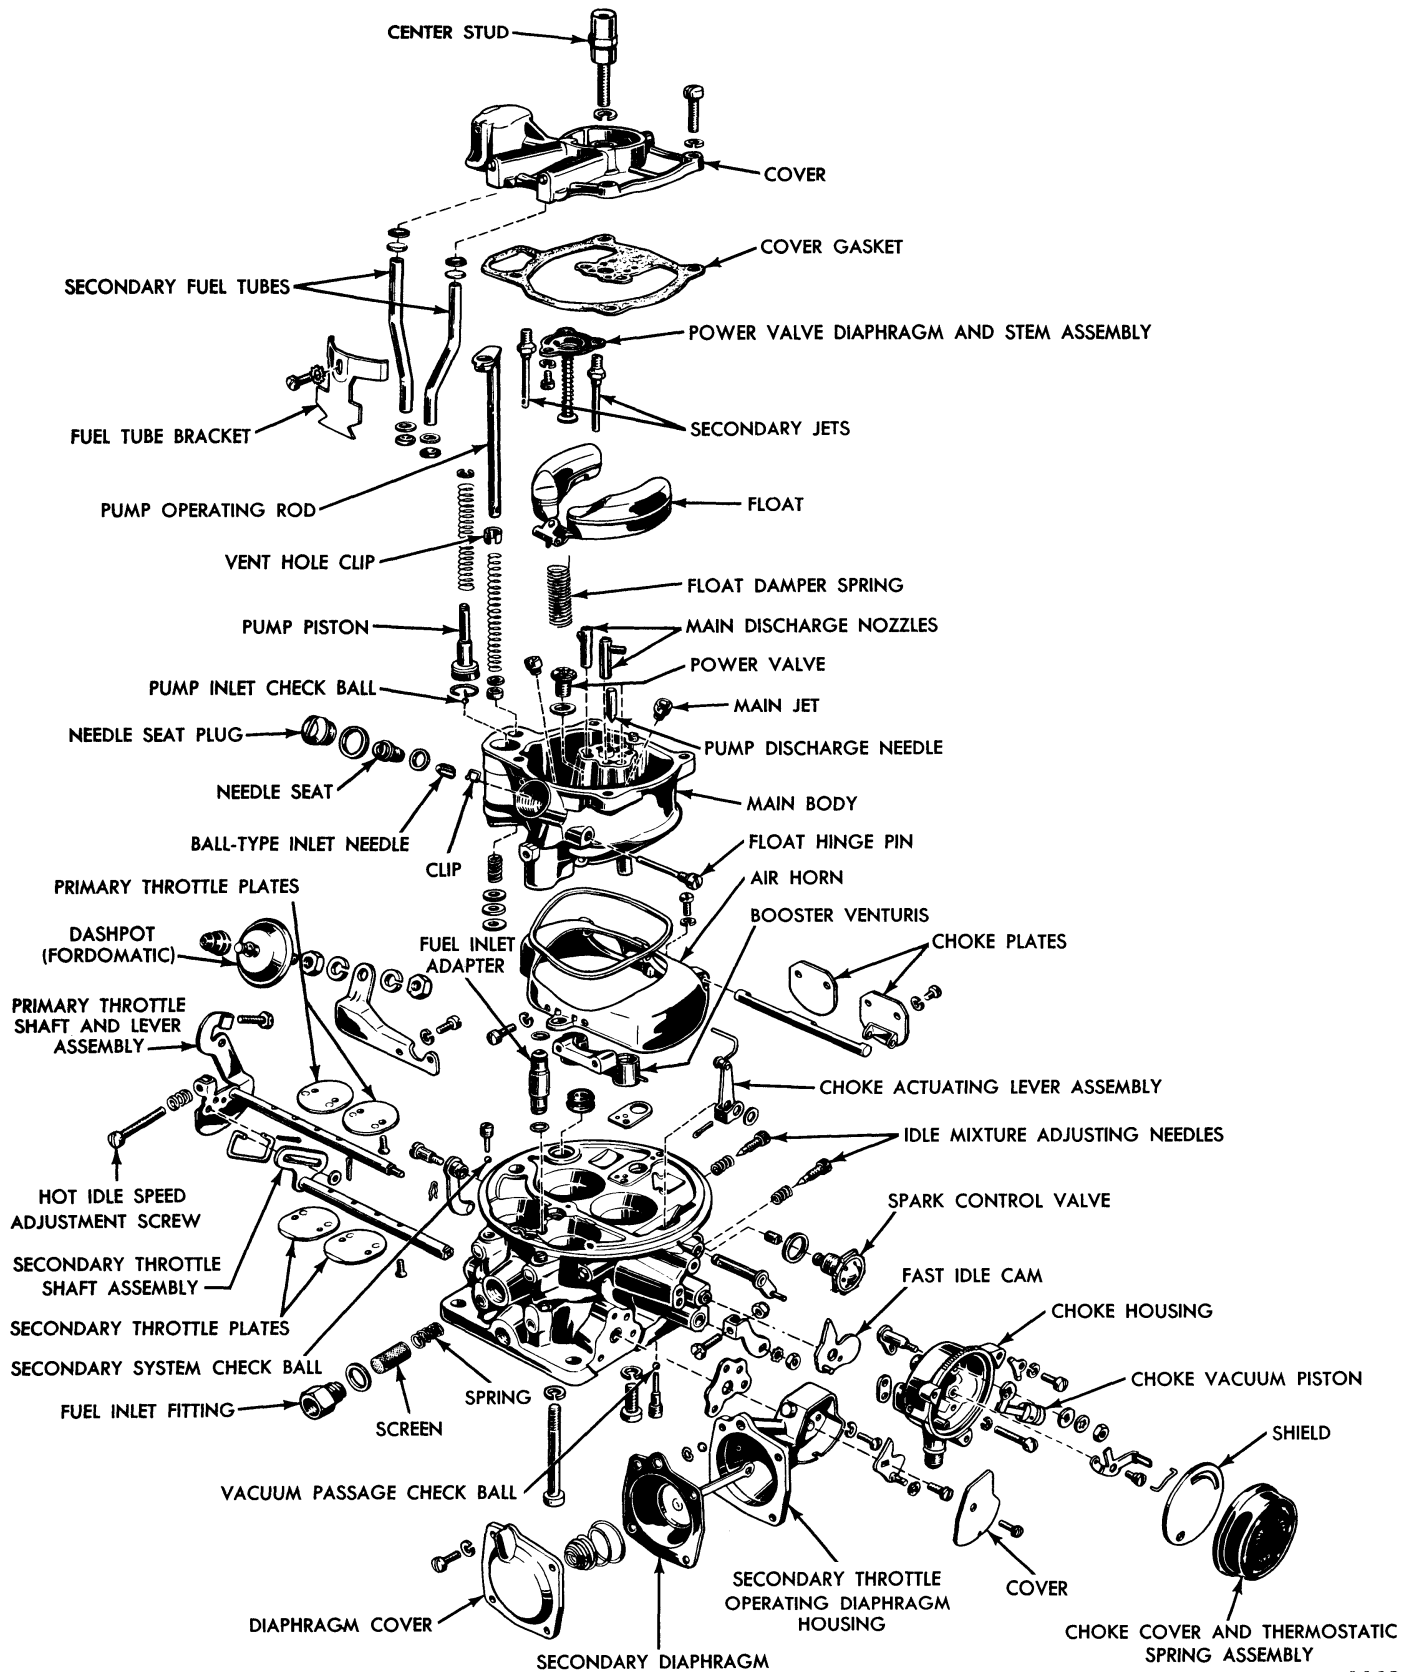

Fig. 62—Four Barrel Carburetor—Disassembled
(2) **DISASSEMBLY.** Use a separate container for the component parts of the throttle body and the main body. Do not remove the throttle plates, unless necessary, as difficulty may be encountered when installing these parts to obtain correct positioning. It is not necessary to remove the choke plates from the air horn unless they are damaged or the shaft is binding. Remove the booster venturis only when damage makes replacement necessary. The carburetor is shown disassembled in fig. 62.